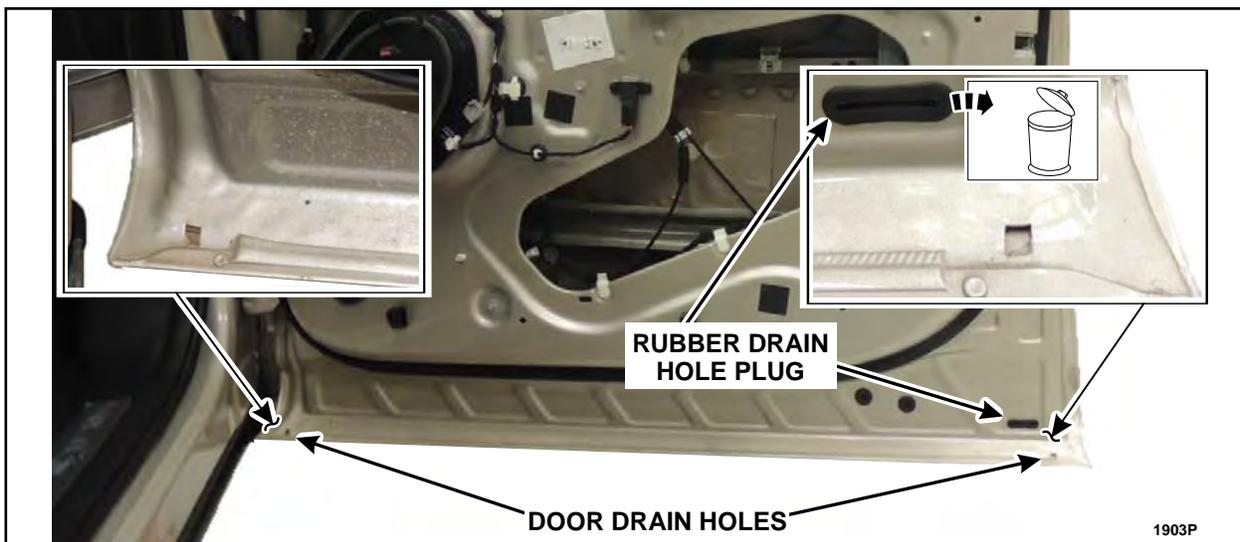

FIGURE 62
3. If water shield kit installation was not necessary, remove and discard the rubber drain plug and clean any obstructions, debris, foreign material and residual water from all of the door drain holes using compressed air and a *tool such as a plastic trim tool or a zip tie*. See Figure 62.